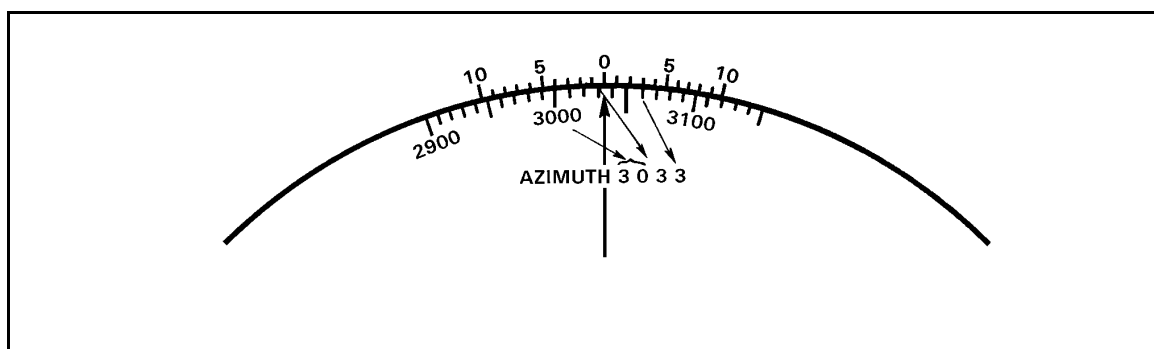

Figure 11-3. The vernier scale.
a. To determine azimuths, read the first three numbers from the azimuth disk, left of the index mark. Read the fourth number, or the last mil, by using the azimuth disk and the right side of the vernier scale (Figure 11-3).
b. For example, consider the azimuth 3033 in Figure 11-3. The first and second numbers are the first 100-mil indicator to the left of the index mark (30). To obtain the third number, count the 10-mil graduations between the 100-mil indicator and the index mark (3).